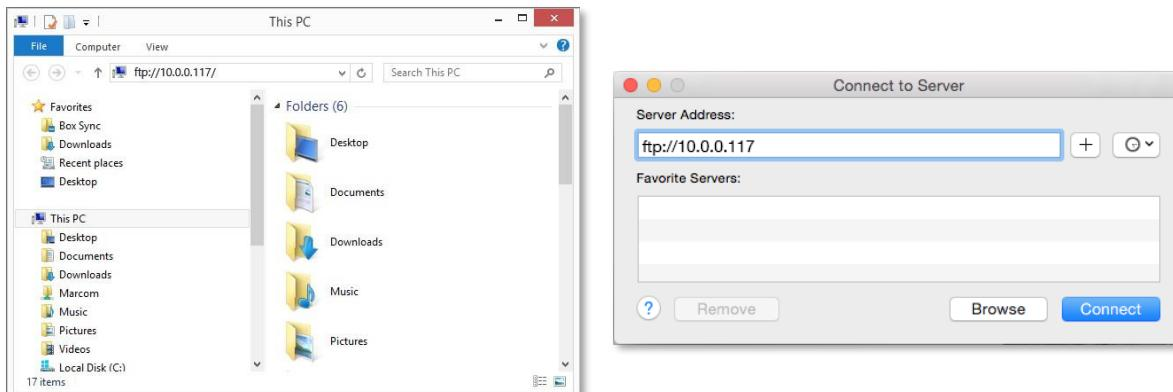

Figure 102: Enter the Digital Analyzer’s IP address in File Explorer (left) or Finder (right).
1. On a Windows computer, open Windows Explorer or File Explorer. On a Macintosh computer, open Finder and select **Connect to Server...** from the Go drop-down menu. Once the file manager is open, type **FTP://(IP\_address\_here)** as shown in **Figure 102**. Press **Enter**.